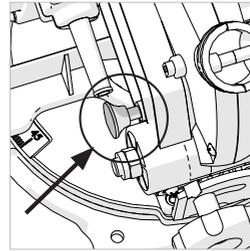

Fig. 15
- Ensure that the Cutting Head is in the locked down position with the latching pin fully engaged in its socket. **(see Fig.15)**
- Pull out the head latching pin (**Fig. 15**) and allow the Cutting Head to rise to its upper position.